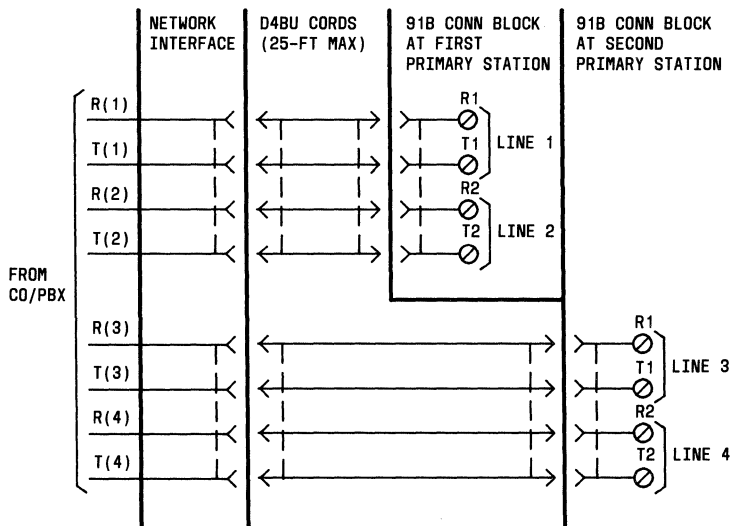

Fig. 46—CO/PBX Line Connections Using 91B Connecting Block
**3.67 Common CO/PBX Lines**—Connect the incoming common CO/PBX lines 1 and 2 to the 91B connecting block associated with the first primary station using a D4BU cord (25-foot maximum) between the network interface and the modular jack on the 91B (Fig. 46). Connect lines 3 and 4 to the 91B block associated with the second primary station in the same manner.